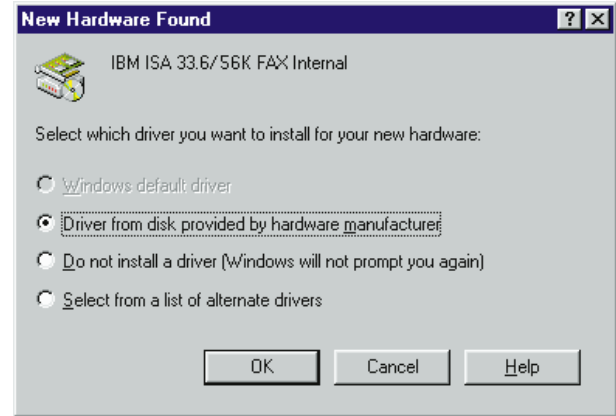

Figure 10. New Hardware Found Dialog
3. When Windows 95 reboots, you should see the **New Hardware Found** screen, shown in Figure 10